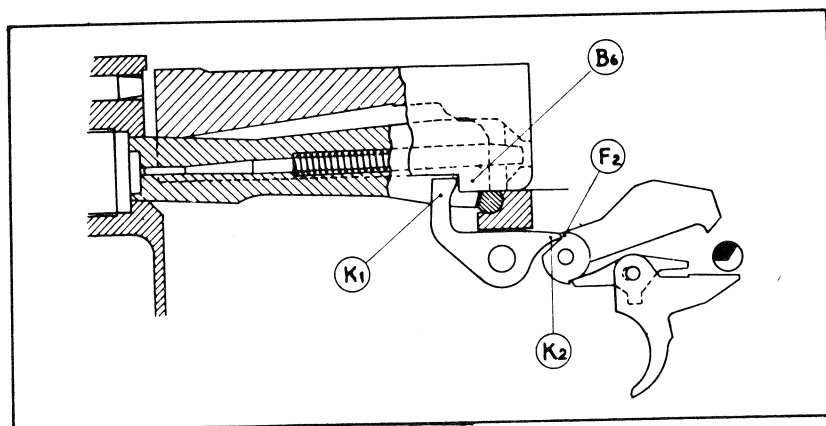

Fig.12
- During the movable parts movement the firing pin head is concealed by the slide (fig. 12).
- As soon as the rear face of the slide overcomes the hammer, it lifts again and gets in touch with the safety sear nose (K2) by the hammer notch (F2), which makes it ready to be fired (fig. 12).
- During the last millimeters of its forward travel, the slide gets in touch with the safety sear nose (K1) by its support (B6) (fig. 12).